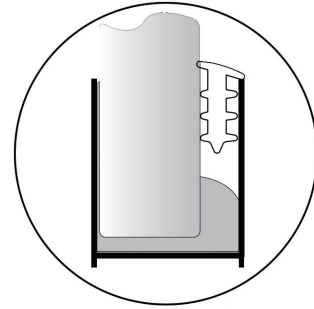

FIG 9.
- Starting at the top of the wall channel, from outside shower, spray with warm soapy water then insert rubber wedge seal into gap (removing plastic wedges if used). (FIG 9) Leave rubber wedge protruding 40mm at top to cut off later.